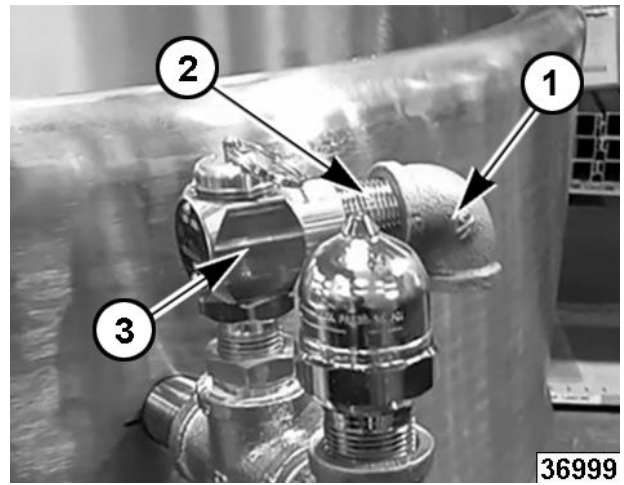

Fig. 14
1. Remove elbow (1, Fig. 14) and adapter (2, Fig. 14) from pressure relief valve (3, Fig. 14).
The thermostatic air vent must be mounted in a vertical position to work properly as shown in Fig. 14.